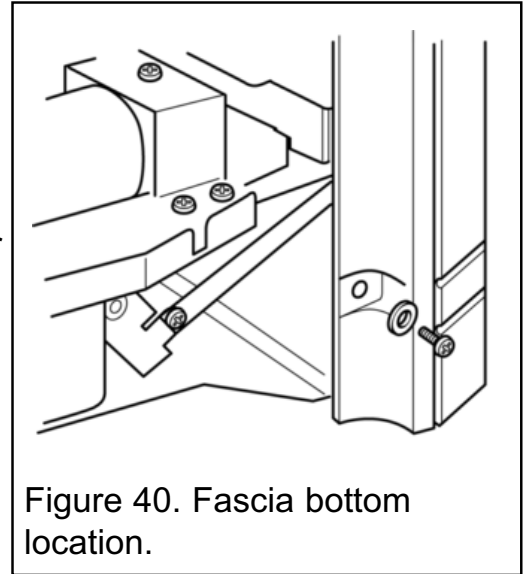

Figure 40. Fascia bottom location.
- ii)* Remove the two screws (and washers where fitted) securing the bottom of the fascia to the sides of the convection box (See figure 40).